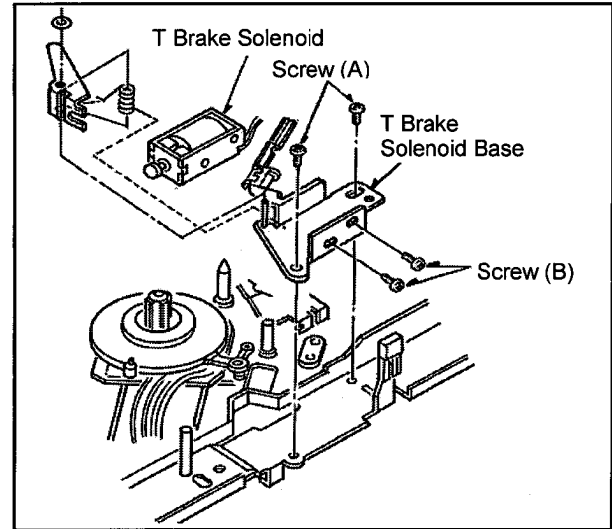

Fig.4-20-1
3. Unscrew the 2 screws B, and remove Take-up Brake Solenoid as shown in Figure 4-20-1.